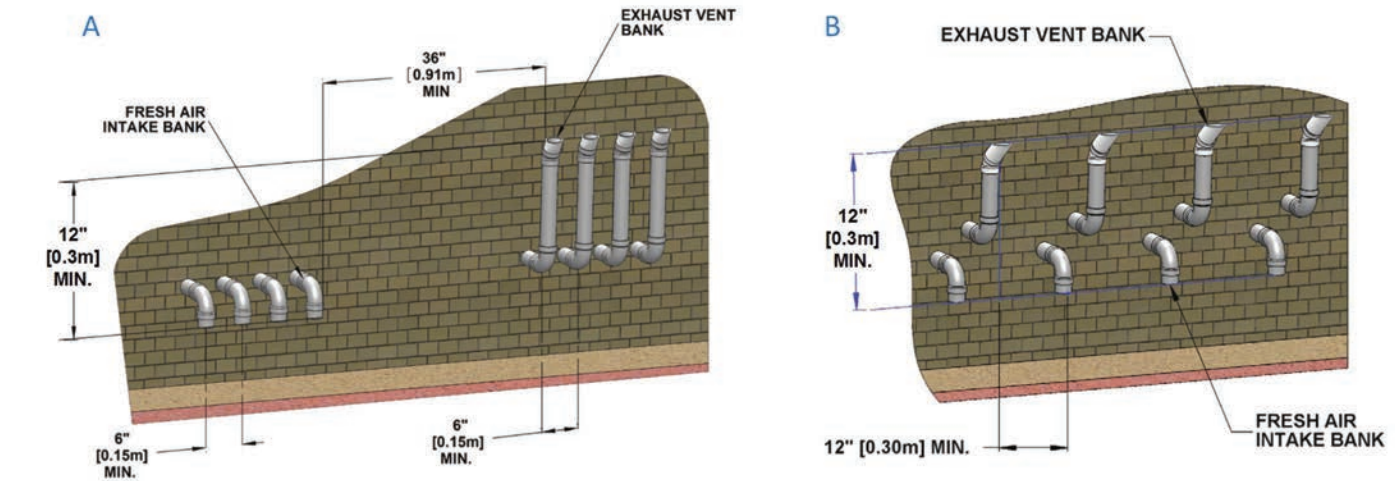

Figure 13: Sidewall vent termination - multiple vent piping configuration
6" (minimum) lateral spacing, and similarly group the exhaust pipes. Place the 2 groups on the same plane of the building (e.g. north facing wall). Place the 2 groups of pipes at least 3' apart (the closest intake and exhaust pipes shall be 36" - or more – apart. Use same 12" (minimum) vertical separation (See (A) in Figure 13). Alternately, as long as the boilers are identical models - intake and exhaust terminals can maintain a minimum of 12" of separation horizontally from any exhaust or inlet termination of an adjacent boiler (See (B) in Figure 13). For alternate group terminations, contact the IBC Factory for written guidance.